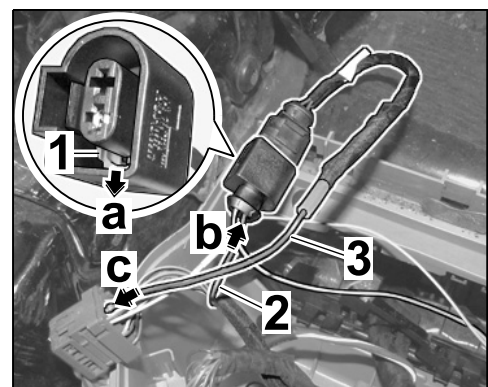

Figure 19
2.4.2 Open secondary lock ⇒ *Figure 19-1-* on the plug socket (connection point) ⇒ *Figure 19-a-*.
Insert socket contact of the RD/GN line you pressed out ⇒ *Figure 19-2-* into chamber 2 of the plug socket ⇒ *Figure 19-b-*.
2.4.3 Insert adapter line ⇒ *Figure 19-3-* (connection point) into chamber 17 of the red connector ⇒ *Figure 19-c-*.